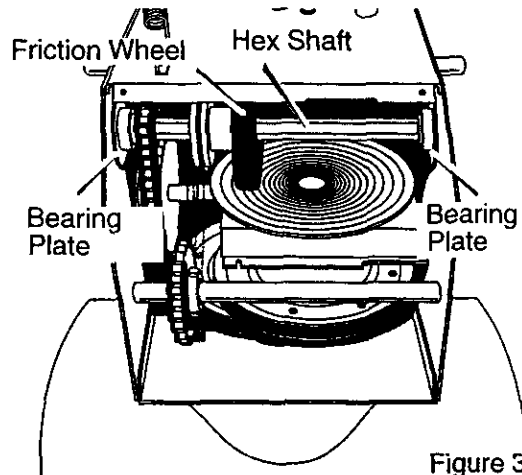

Figure 32
7. Remove the four bolts that hold the **bearing plates** on each side of the **hex shaft**. See Figure 32.
11. Install the **bearing plate** onto the right side. Make sure the **hex shaft** is engaged with both **bearing plates** and that the washers and retaining ring are installed in the original position. See Figure 32.